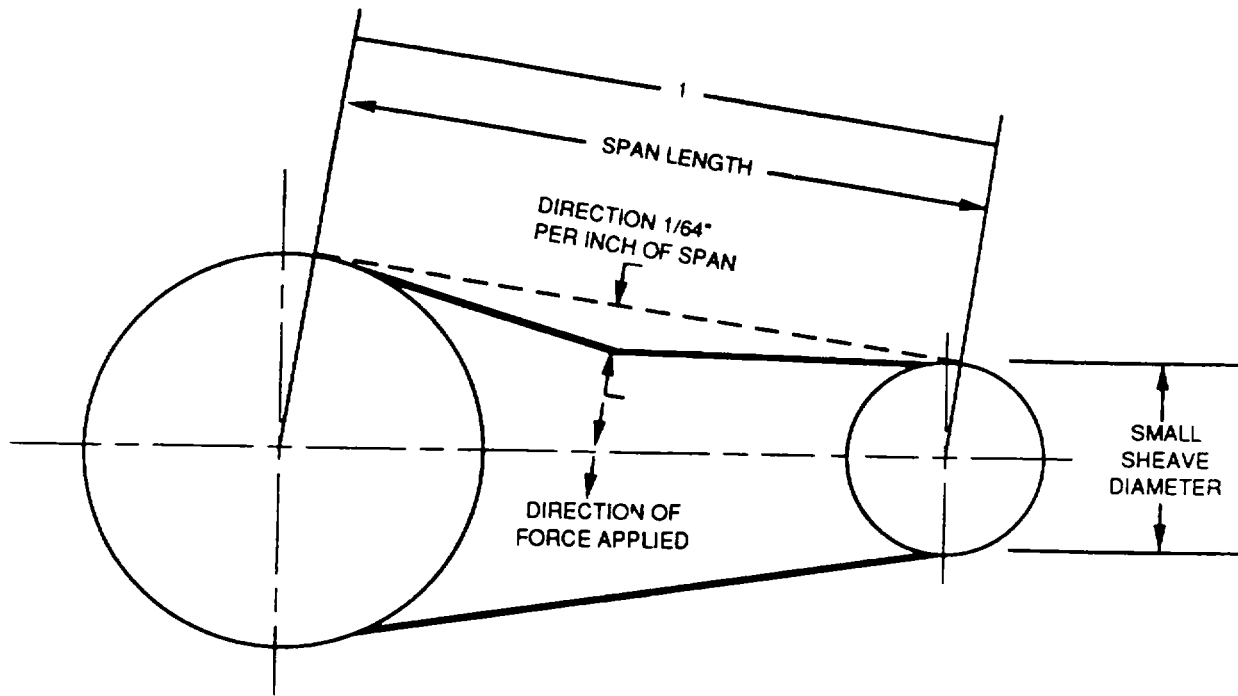

Figure 2-140. Adjust Vee Belt.
e. Install vee belts (8).
(1) Slide motor (17) away from compressor drive sheave (7) to increase tension.
(2) Measure span length (1, Figure 2-140) between center of pulley on air compressor and center of pulley on electric motor.
(3) Divide measurement in half to find center .